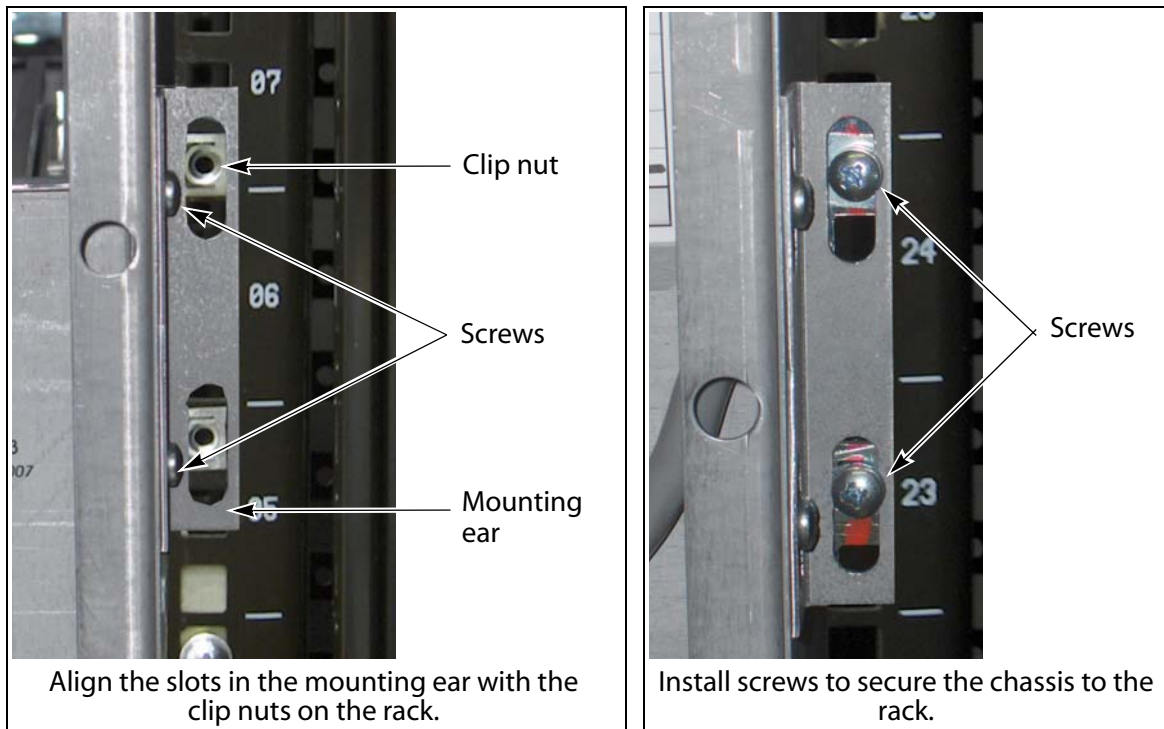

Figure 4 Position the library mounting ears over the clip nuts and install the screws.
- If necessary, use a #2 Phillips screwdriver to loosen the screws securing the ears to the chassis so that you can reposition their slots over the clip nuts on the rack (Figure 4). Tighten the screws to hold the ears in place.
- Install two 10-32 x 1/2-inch SEM screws in each ear to secure the library to the rack, as shown in Figure 4.